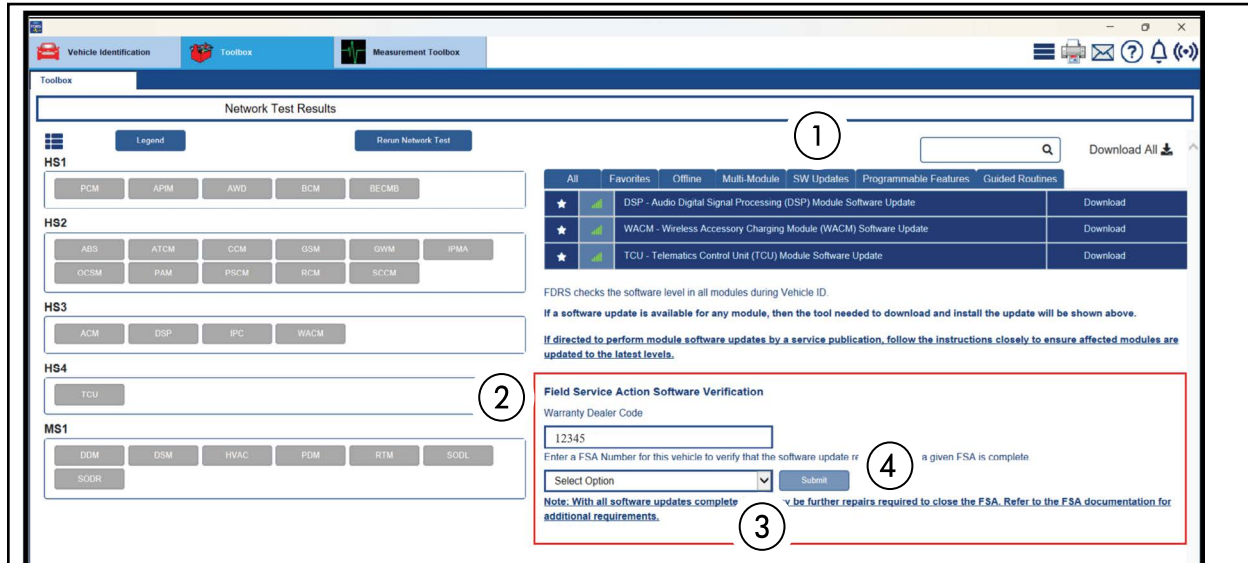

FIGURE 4
12. Select the **SW Updates** tab (1). See Figure 4.
13. **Warranty Dealer Code** (2) - Change the displayed PA code as necessary. See Figure 4.
14. Select the **FSA** (3) from the drop-down menu. See Figure 4.
15. Select **Submit** (4). See Figure 4.
NOTE: The brake system warning indicator icon may appear different than what is shown in Figure 4 based on vehicle market, model year and/or vehicle configuration. Please see the Owner's Guide for more information on warning indicators.